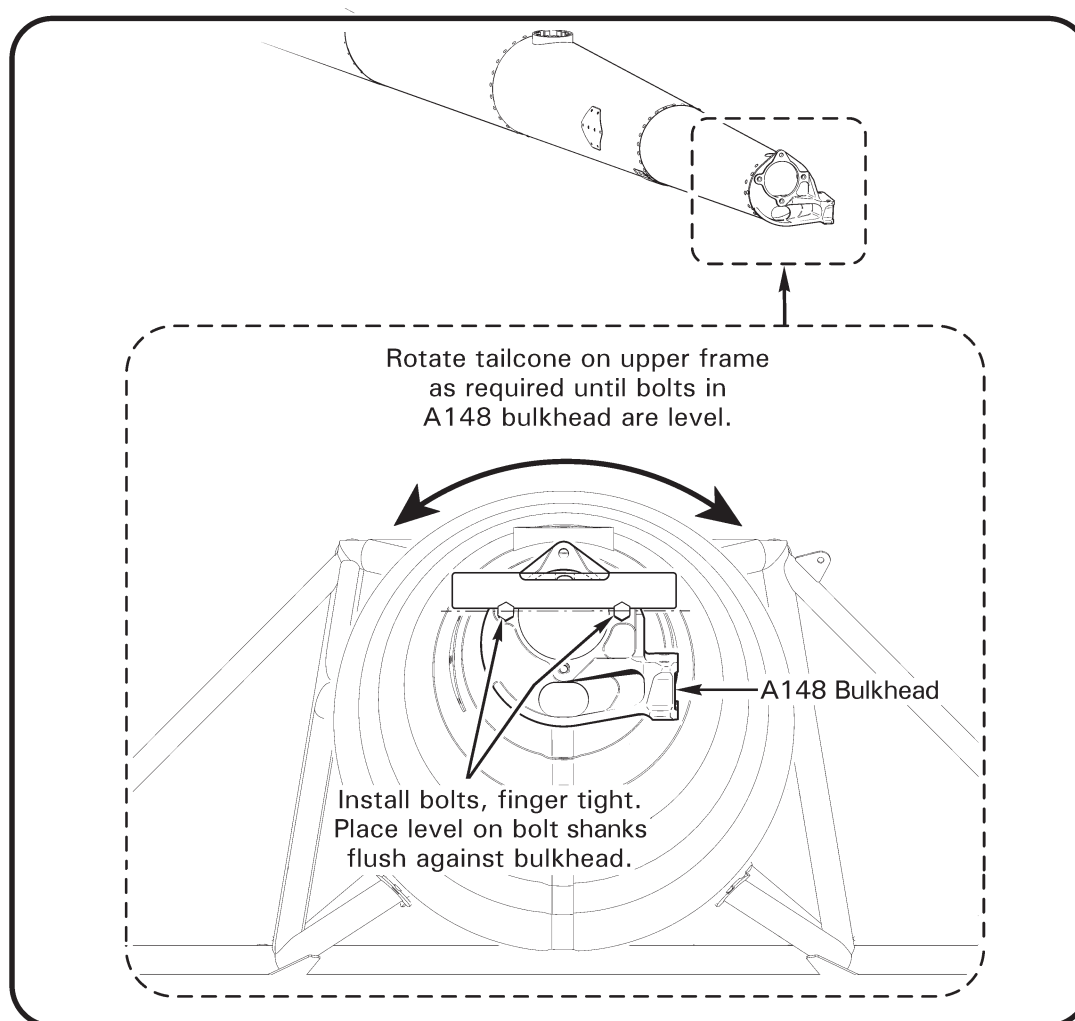

FIGURE 4-2A TAILCONE LATERAL LEVELING
3. Refer to Figure 4-2A. Insert two bolts of sufficient length (to support a level) in A148 bulkhead's left & right gearbox-mounting holes and place level across bolt shanks. Rotate tailcone on upper frame as required until bolts are level.